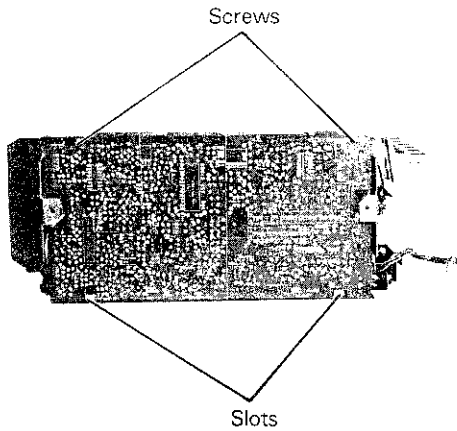

Fig. 4-8
1. Remove the two screws on the printed circuit board as shown in Fig. 4-8.